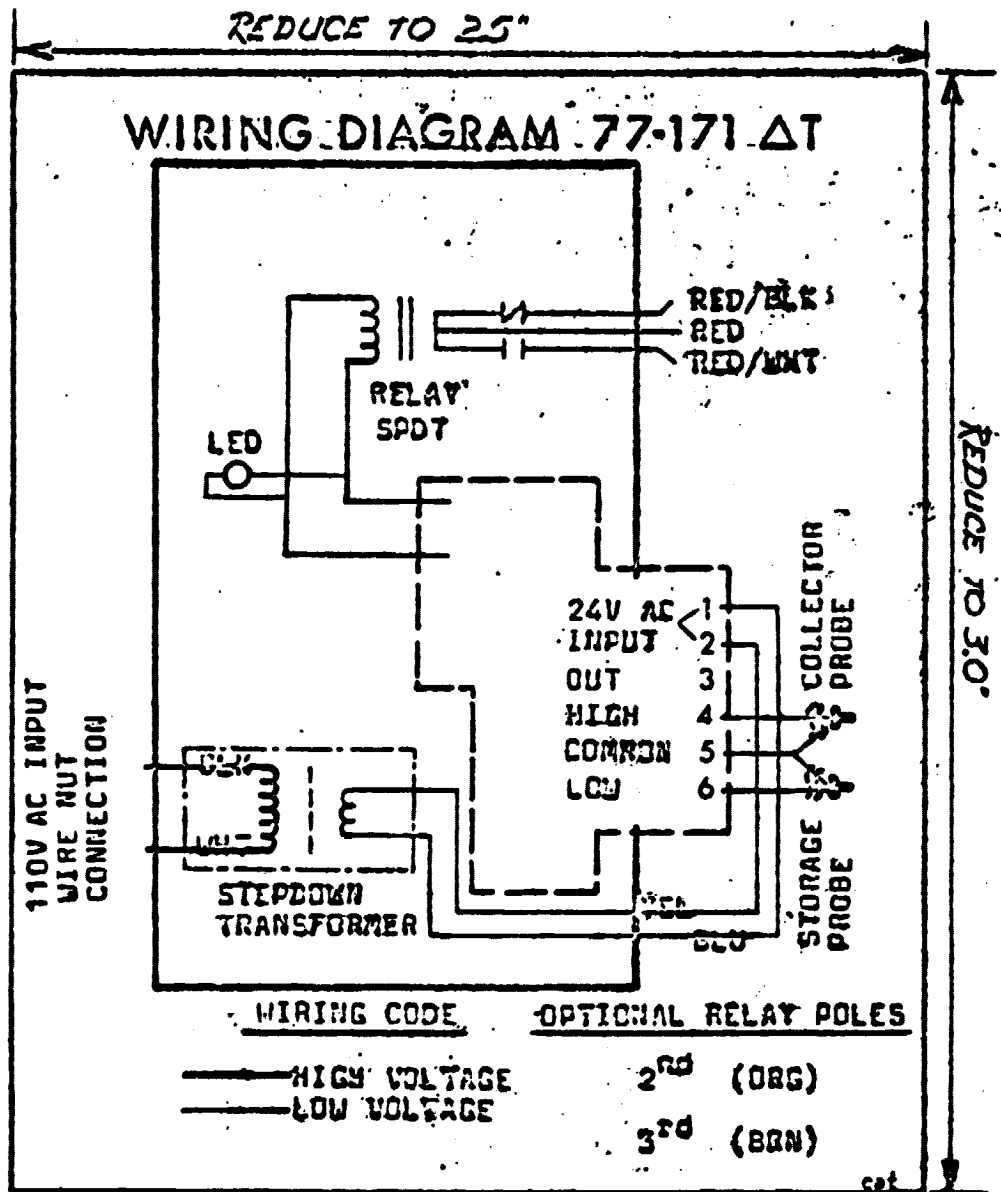

Figure 1
**Wiring Description** (See Fig. 1, Installation Drawing.):
The SPDT relay of the Basic Module is connected in the following manner (See Fig. 1):